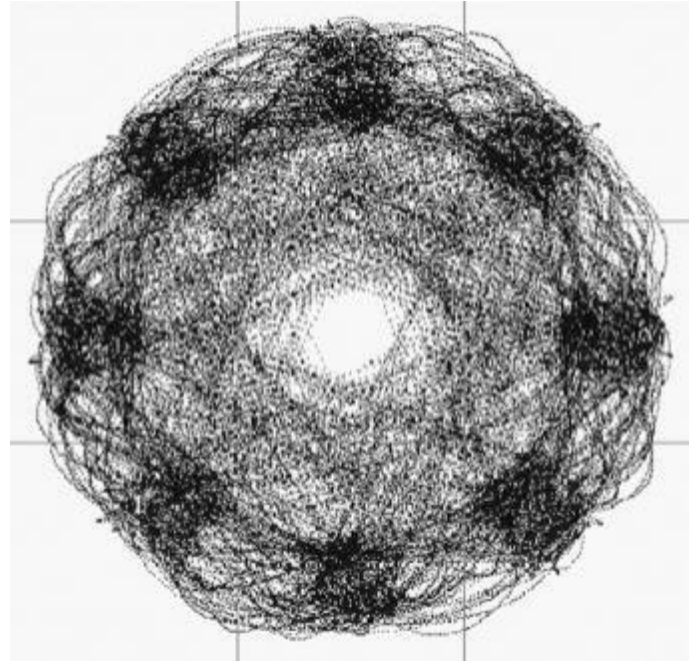

Figure 15. Quadrature modulation.
**Quadrature Modulation.** Today’s digital wireless communications networks are built on a foundation of quadrature (IQ) modulation technology. Two carriers — an in-phase (I) waveform and a quadrature-phase (Q) waveform that is delayed by exactly 90 degrees relative to the “I” waveform — are modulated to produce four states of information. The two carriers are combined and transmitted over one channel, then separated and demodulated at the receiving end. The IQ format delivers far more information than other forms of analog and digital modulation: it increases the effective bandwidth of the system. Figure 15 depicts quadrature modulation.